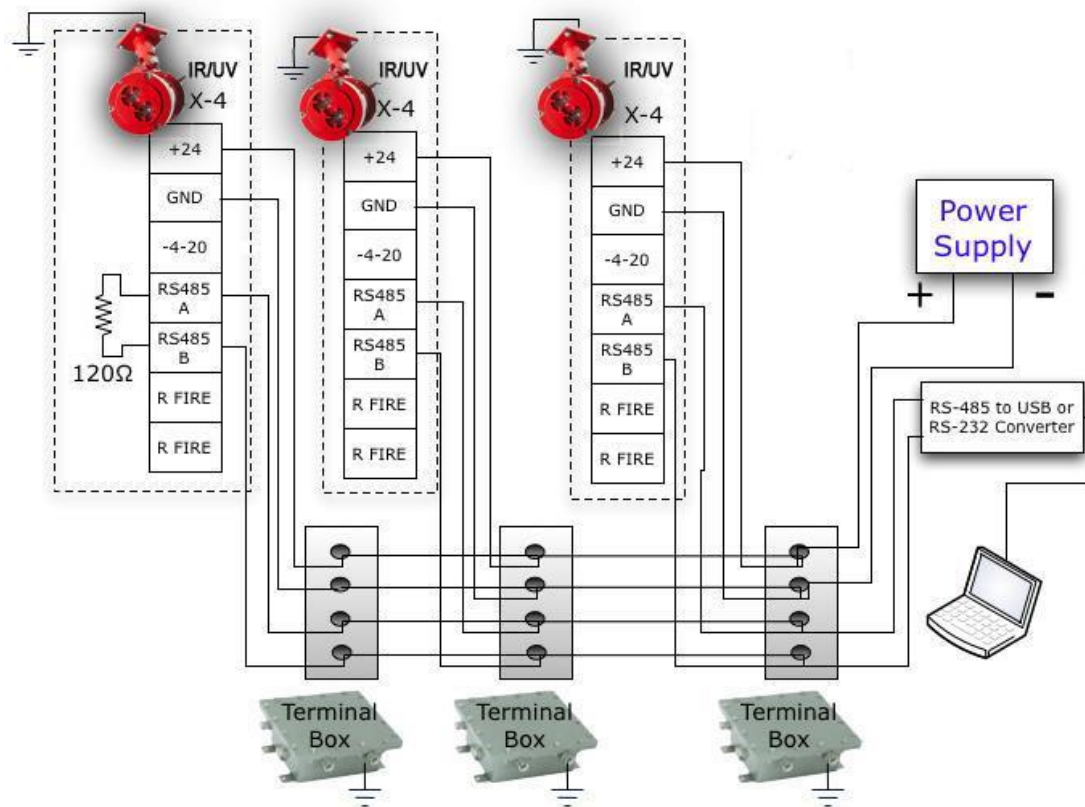

Figure 5-3:
Arrange the electrical connections as described in Table 5-1, Table 5-2 and Figure 5-3 below.
- See Section 5.0, Installation, Tables 5-1 and 5-2, and Figure 5-3 for the recommended circuits and digital outputs to connect the detector to fire-alarm and burglar-fire alarm systems.